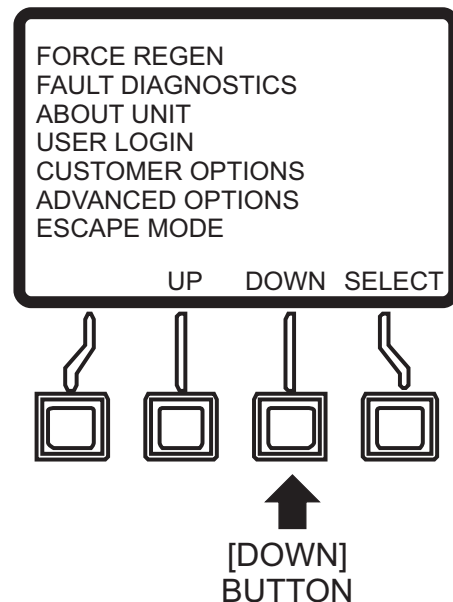

Figure 97. Main Menu (Down Button)
4. Press the **[DOWN]** button (Figure 97) to scroll to the Escape Mode item.